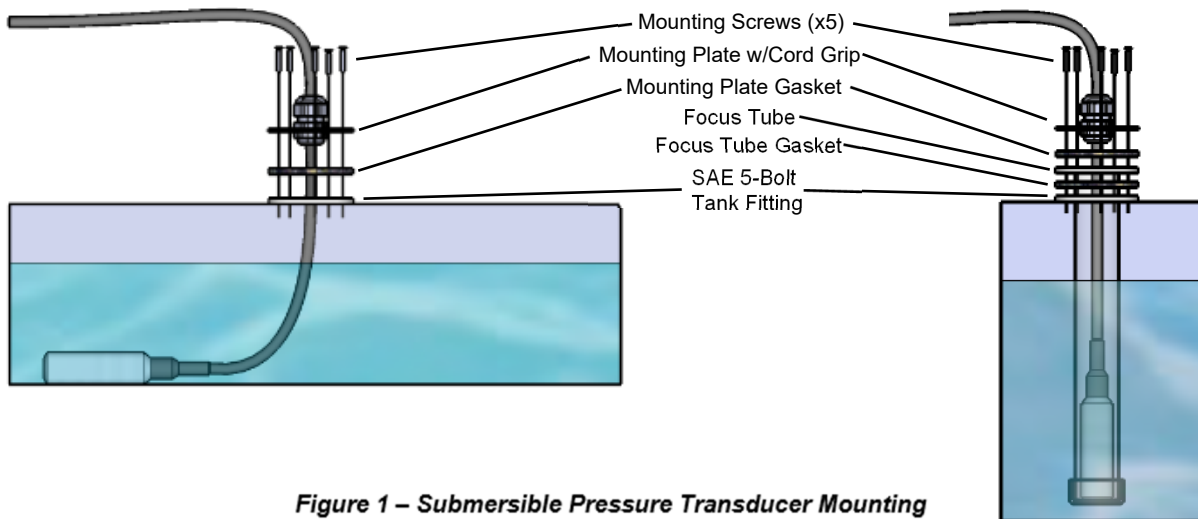

Figure 1 – Submersible Pressure Transducer Mounting
Maretron's submersible pressure transducers are used for indicating tank levels and can be installed directly in the tank. Please follow these instructions to mount and connect a submersible pressure transducer to an NMEA 2000® network via a Maretron FPM100 Fluid Pressure Monitor. Maretron recommends one of two methods for mounting a submersible pressure transducer in a tank; 1) without a restraining tube (shown on left side of Figure 1) and, 2) with a restraining tube (shown on right side of figure 1).
2. Lower the pressure transducer into the tank such that the transducer lies at the lowest point of the tank, and tighten the cord grip to secure the cable. On a tank with a flat bottom, the transducer may slide from side to side with the motion of the vessel, but will not rotate due to the stiffness of the cable. It is also possible to mount the pressure transducer inside a restraining tube or focus tube (sold separately, Maretron part number TFT-5H). Please refer to Figure 1 for examples.
3. Connect the two wires of the pressure transducer to a free pressure monitoring channel as shown in Figure 2 below. The diagram shows a connection to FPM100 channel #0, but connections to other channels are similar. Connect the white wire from the pressure transducer to the positive (+) terminal of the channel and connect the brown wire from the pressure transducer to the negative (-) terminal of the channel. The example in Figure 1 shows the pressure transducer connected to switch channel 0 with the white wire connected to “P0+”, and the brown wire connected to “P0-”. Submersible pressure transducers have a small plastic vent tube in the connecting cable.